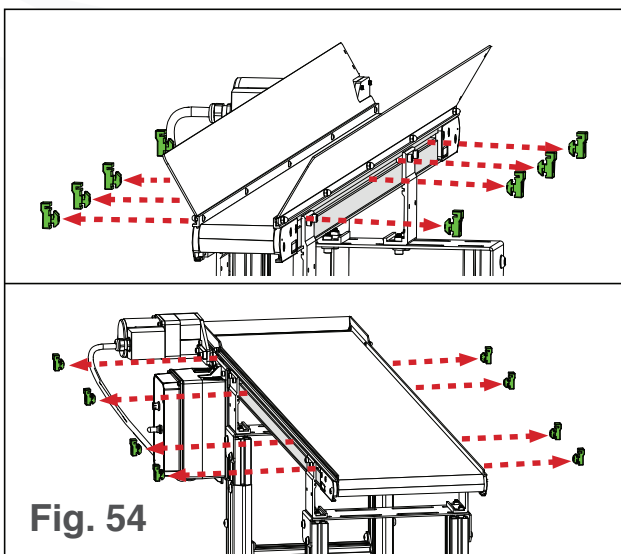

Fig. 54
5. Using a 4mm hex key, remove all eight conveyor clips (see Fig. 54).